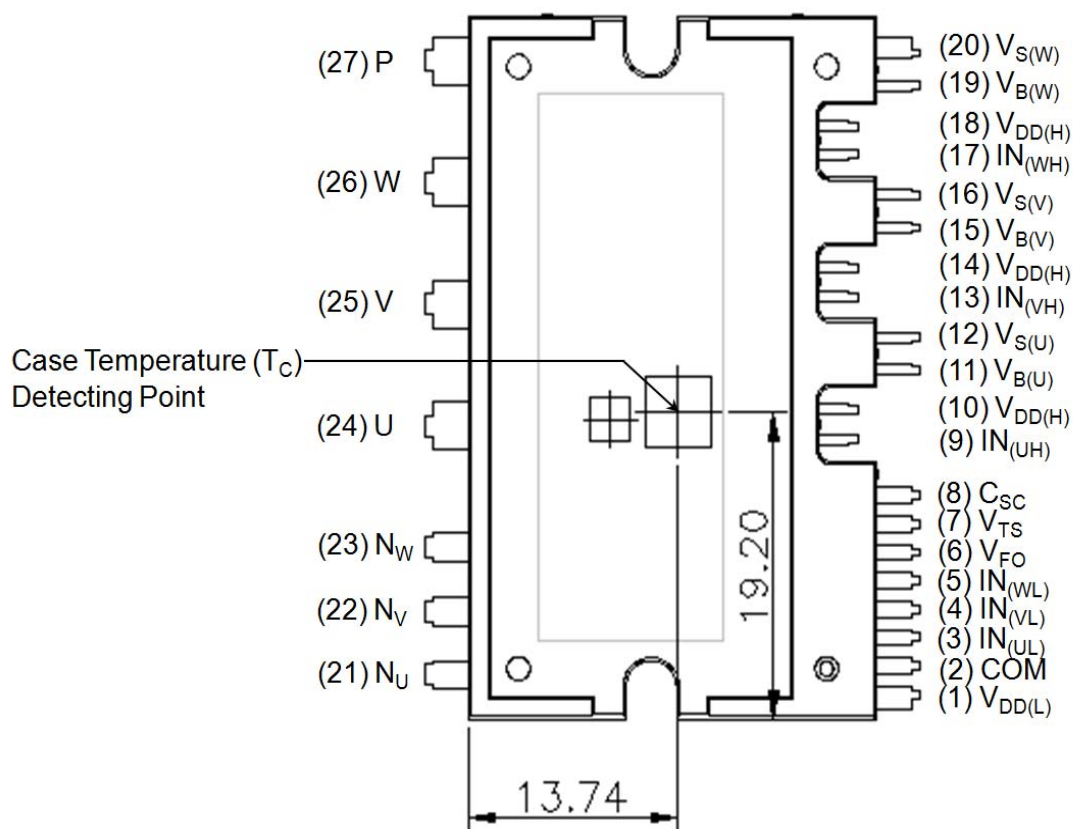

Figure 2. Top View
| T_C | Module Case Operation Temperature | See Figure 2 | -40 ~ 125 | $^\circ\text{C}$ |
5. For the measurement point of case temperature (T_C), please refer to Figure 2.